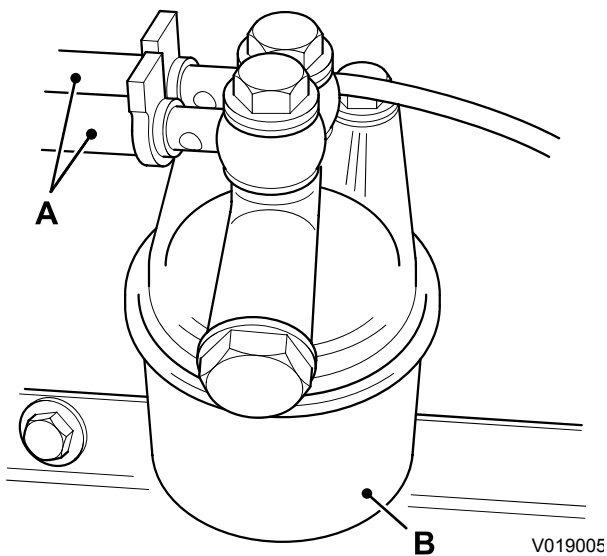

Fig 21.
- 3 Clamp the fuel hoses **A**. ⇒ Fig 21. \(□ 3-40\)